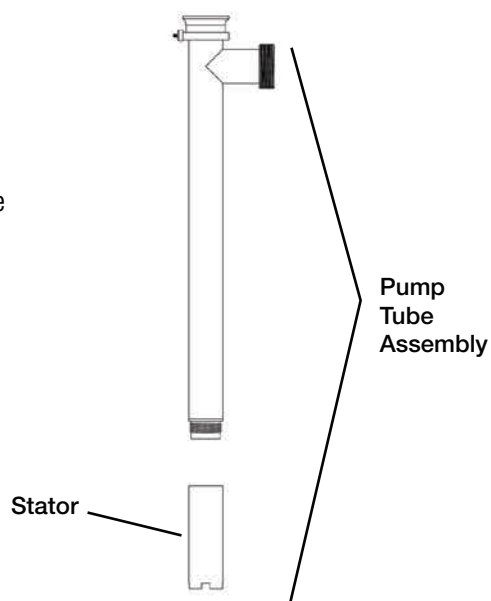

Figure 5
1. The stator is located at the bottom of the pump tube assembly (see Figure 5).